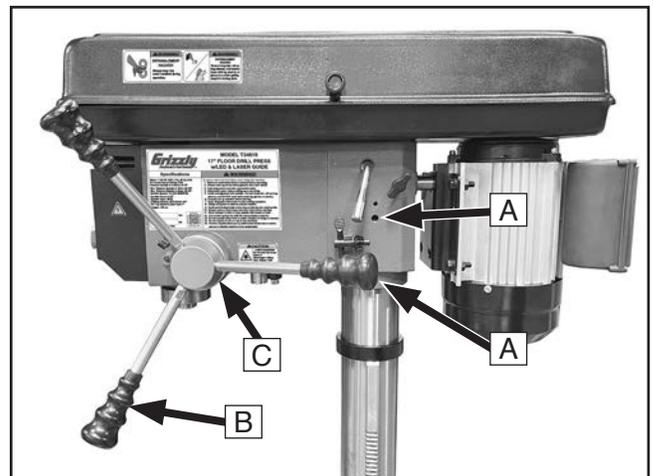

Figure 15. Headstock and downfeed handles installed.
11. Rotate the headstock until the sides of the belt door are parallel with the sides of the base, then tighten two set screws (see **A** in **Figure 15**).
12. Install three downfeed handles (see **B** in **Figure 15**) into the downfeed hub (see **C** in **Figure 15**).